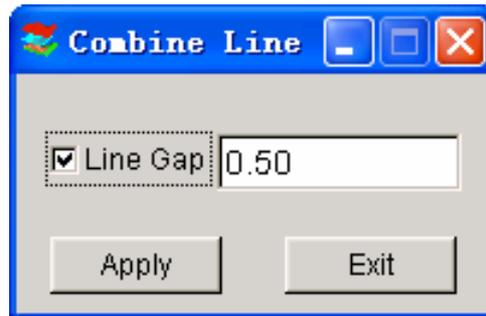

Figure 5.1.5 Combine Line
- Select Combine Line function the program will pop-up a dialog box for user to select the gap value between lines as Figure 5.1.5. If the user doesn't toggle on the line gap option, all select lines will be combined.